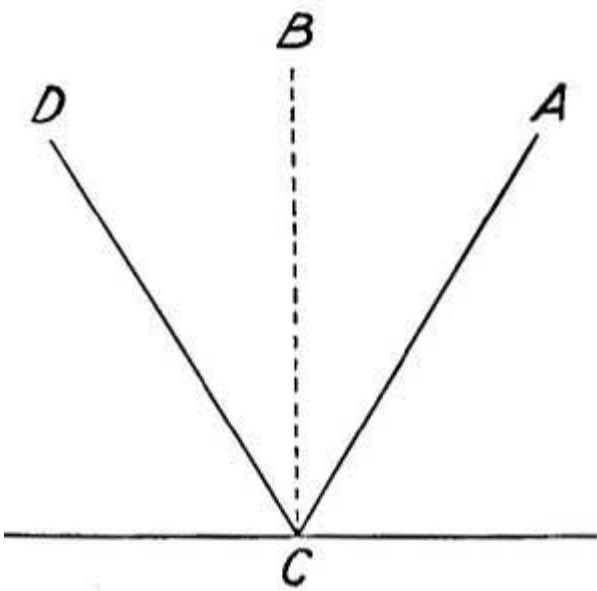
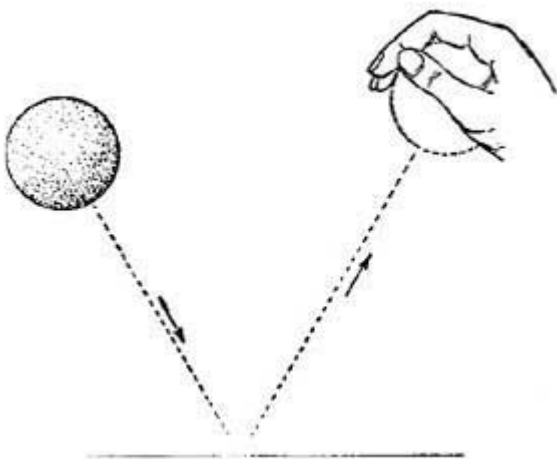

FIG. 60.—The ray AC is reflected as CD .
FIG. 61.—A bouncing ball illustrates the law of reflection.
If a mirror is held so that a ray of light strikes it in a perpendicular direction, the light is reflected backward along the path by which it came. If, however, the light makes an angle with the mirror, its direction is changed, and it leaves the mirror along a new path. By observation we learn that when a beam strikes the mirror and makes an angle of 30° with the perpendicular, the beam is reflected in such a way that its new path also makes an angle of 30° with the perpendicular. If the sunbeam strikes the mirror at an angle of 32° with the perpendicular, the path of the reflected ray also makes an angle of 32° with the perpendicular. The ray (AC , Fig. 60) which falls upon the mirror is called the incident ray, and the angle which the incident ray (AC) makes with the perpendicular (BC) to the mirror, at the point where the ray strikes the mirror, is called the angle of incidence. The angle formed by the reflected ray (CD) and this same perpendicular is called the angle of reflection. Observation and experiment have taught us that light is always reflected in such a way that the angle of reflection equals the angle of incidence. Light is not the only illustration we have of the law of reflection. Every child who bounces a ball makes use of this law, but he uses it unconsciously. If an elastic ball is thrown perpendicularly against the floor, it returns to the sender; if it is thrown against the floor at an angle (Fig. 61), it rebounds in the opposite direction, but always in such a way that the angle of reflection equals the angle of incidence.